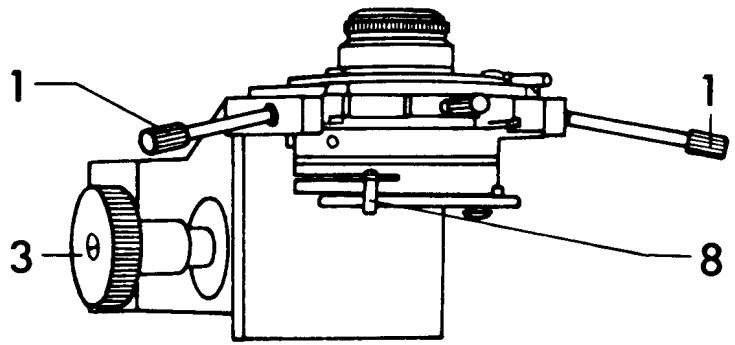

Fig. 32
**Working with the achromatic aplanatic condenser 1,35 N.A., Fig. 32**